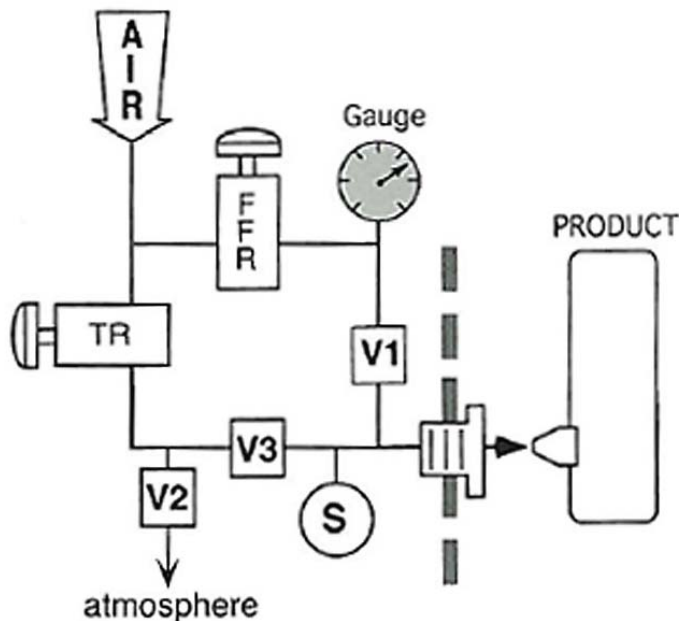

Figure 1
- Fast-fill pressure is set using the fast-fill regulator [FFR] and analog gauge. (Figure 1)